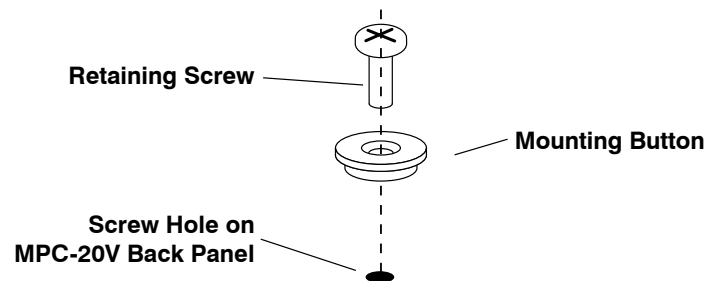

Figure 3: Attaching Mounting Buttons to MPC-20V (Vertical) Units
- a) Insert a retaining screw into each Mounting Button with the top of the screw aligned with the large end of the Mounting Button, as shown in Figure 3.